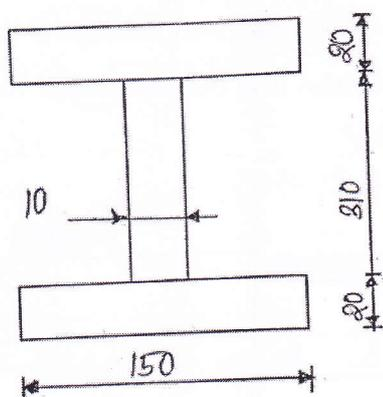

Fig 3
- Q.3 If the shear force acting on the I section beam as shown in fig. 3 is 40kN , find the maximum shear stress developed in the I section. Also calculate the Shear Stresses at Neutral axis & also draw the shear stress distribution over the depth of the section. 15 L₃ CO4